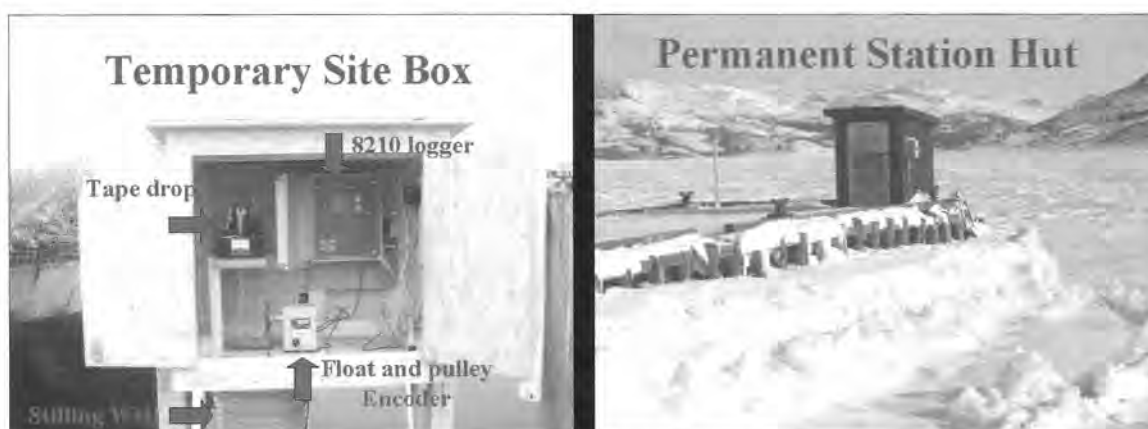

Figure 2: Temporary and permanent gauge stations.
highest concentrations of suspended sediment. Sediment concentrations regularly exceed  $10\text{kg m}^{-3}$  and can reach  $400\text{kg m}^{-3}$  near features such as tidal bores. Following the construction of the Petitcodiac Causeway these unusual conditions combined to produce far-reaching changes to the environment. The disruption of tidal flow resulted in sedimentation rates downstream of the structure that were so high that new mudflats were created almost as fast as the causeway was closed (Figure 1). The extent of the resulting mudflats and the speed with which they were formed was unexpected. Within a year of completion, the cross sectional area of the Petitcodiac River at Moncton, near the causeway, shrank by up to 80% as the entire system started to fill with sediment (Figure 2).
**Figure 2:** *Cross channel depth profiles from a section 15km downstream of the causeway (T11) and at the moth of the Petitcodiac River (T1). Shown is the large change in channel cross section since causeway construction and the smaller continuing change. Also shown is the correspondence between the 1861 and 1965 channel profiles.*
In most locations, the 1965 bathymetry aligned with a gas layer shown in the sub-bottom profiler data, suggesting that the sediment deposition following causeway construction occurred so quickly that benthic flora and fauna were buried and subsequently decayed. The 1965 bathymetry also aligned with sparse data obtained from a hydrographic chart of the area based on a British Admiralty survey conducted in 1861 indicating that the channel morphology had been stable for more than a century prior to causeway construction (Figure 2).
a primary water level sensor (rotary encoder with float and pulley); and viii) a backup pressure or bubbler sensor (Figure 2).